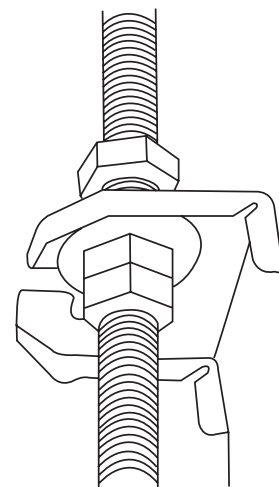

Fig. 4.10
8. Mount the indoor unit with at least two people to lift and secure it. Insert suspension bolts into the unit's hanging holes. Fasten them using the washers and nuts provided. (See Fig. 4.10).